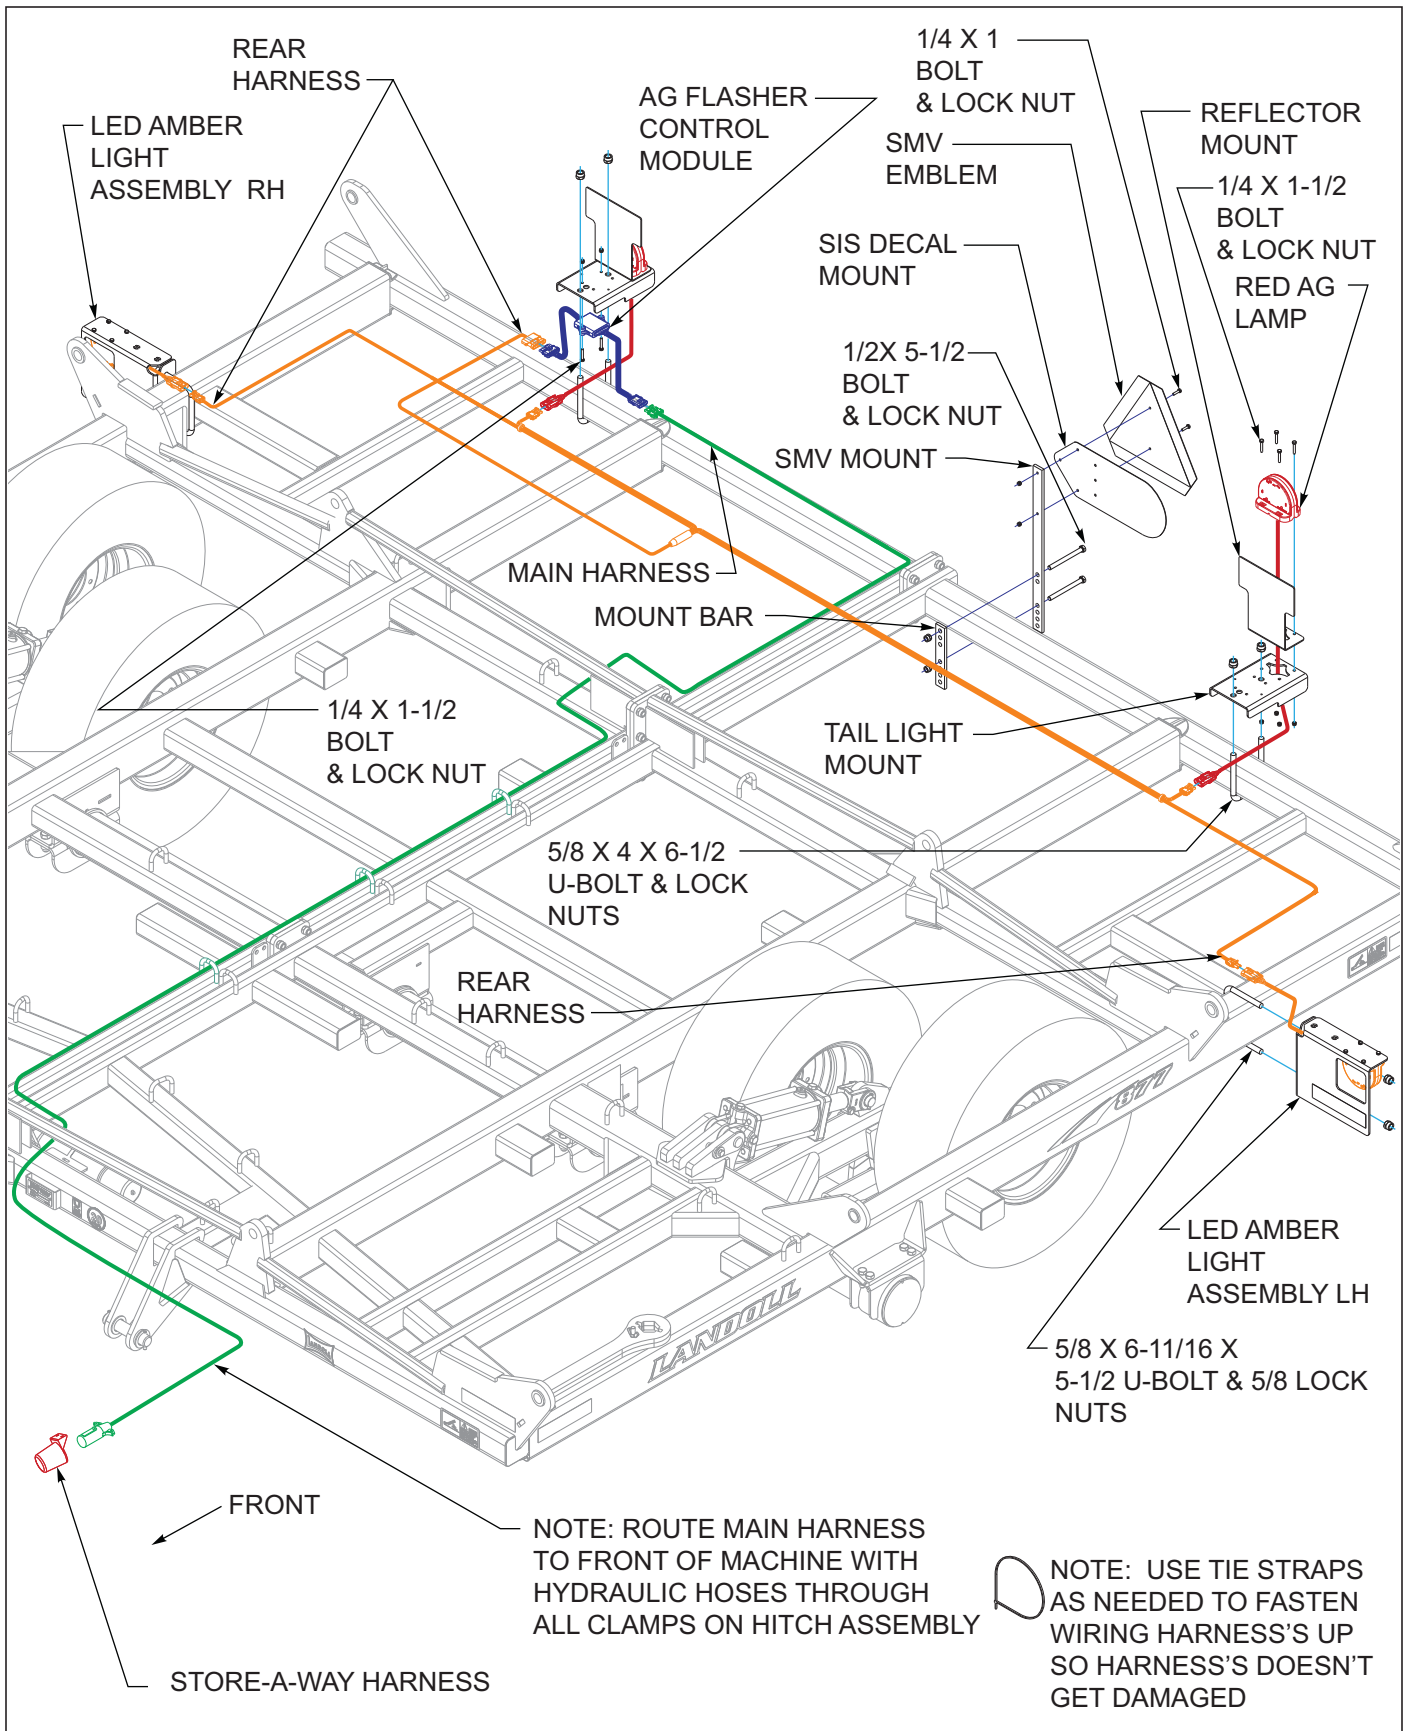

Figure 3-29: LED Light Installation
1. Attach LH and RH light bracket assemblies to center frame using 5/8 x 6-11/16 x 5-1/2 u-bolt and 5/8 lock nuts **See Figures 3-29.**